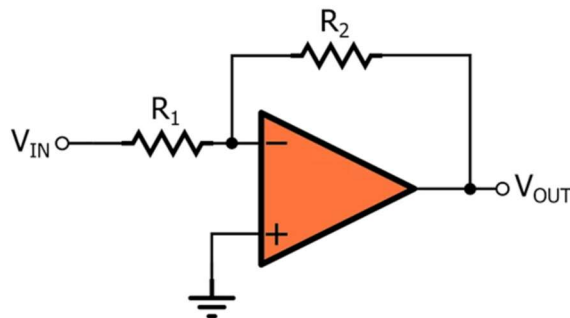
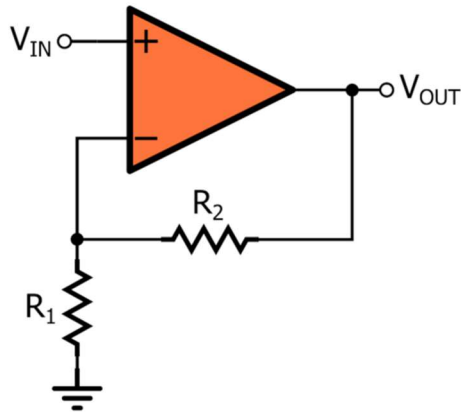

Figure 21. An op-amp is used here to make an **inverting amplifier** circuit. The gain is quite stable because it is determined by the resistor values.
Figure 22. An op-amp here makes a **non-inverting amplifier** circuit.
Exercise 15. Show that the op-amp circuit in Figure 21 yields an *inverting amplifier* with
- 1) Neither op-amp input can source or sink any current. (Therefore, in Figure 21, any current coming into the inverting input through R1 will have to equal the current going out of the input through R2.)
Exercise 16. Use these same rules to show that the op-amp circuit in Figure 22 yields a *non-inverting amplifier* with
Figure 23. This op-amp makes a **transimpedance amplifier** circuit that converts a photocurrent to an output voltage. Here the capacitor adds an RC low-pass filter to the output signal. A similar capacitor could be added in Figure 21 or Figure 22 with the same effect.
into the circuit (so no additional attenuators are needed). Thus, the voltage applied to the LT1028 input is 10^6 times smaller than the signal at the BNC input to the PCB, and this tiny input signal becomes the MOOS. As seen in the circuit diagram (compare with Figure 22), the input signal is then amplified 1000x to produce the signal at the output BNC. Once again, pin 3 in Figure 26 is where you have the MOOS, as this is where the signal is first being observed (the attenuators are just a convenience to give you a suitably small signal to analyze).